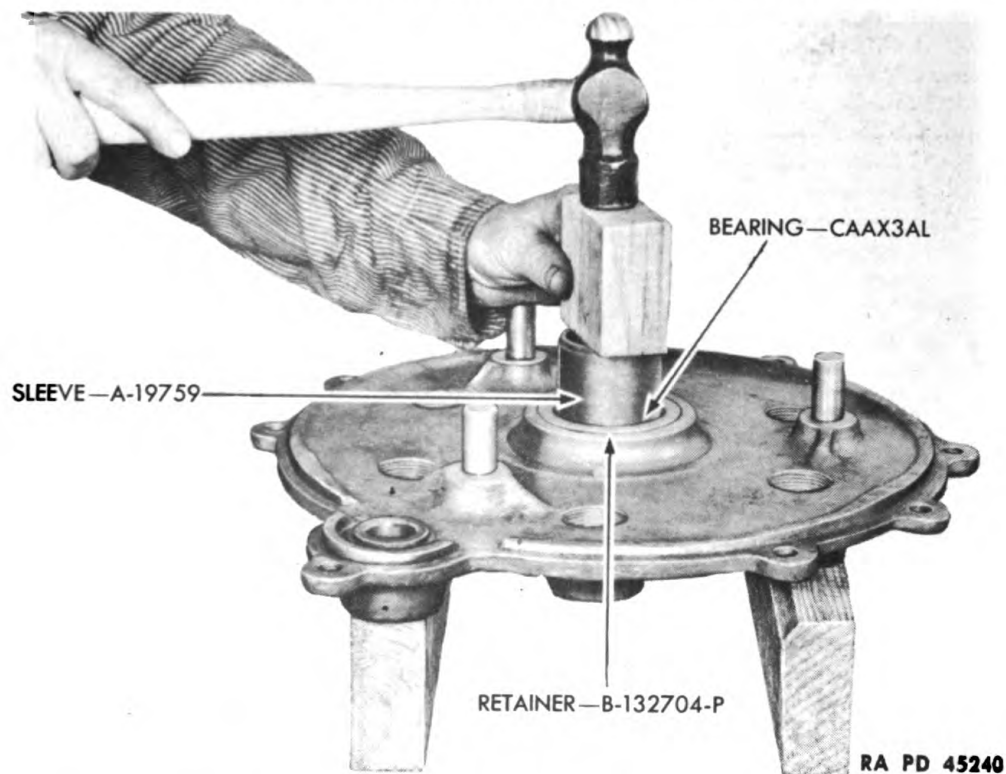

Figure 181—Removing Bearing from Elevating Mechanism Housing Cover
(3) Place the cover, with outside face down, on two wood blocks. Place sleeve A19759 on bearing CAAX3AL and drive out bearing (fig. 181).